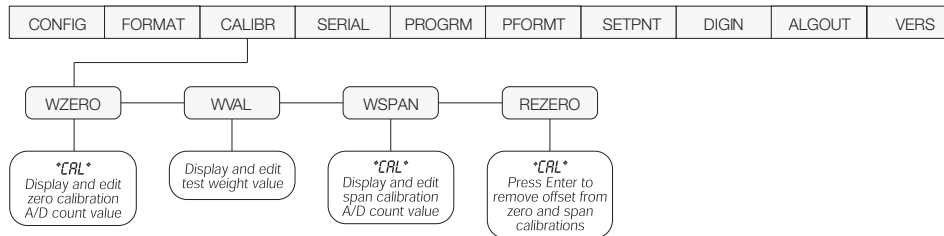

Figure 1-1. Calibration (CALIBR) Menu
2. Press \triangleright until the display reads **CALIBR** (see Figure 1-1). Press ∇ to go to zero calibration (**WZERO**).